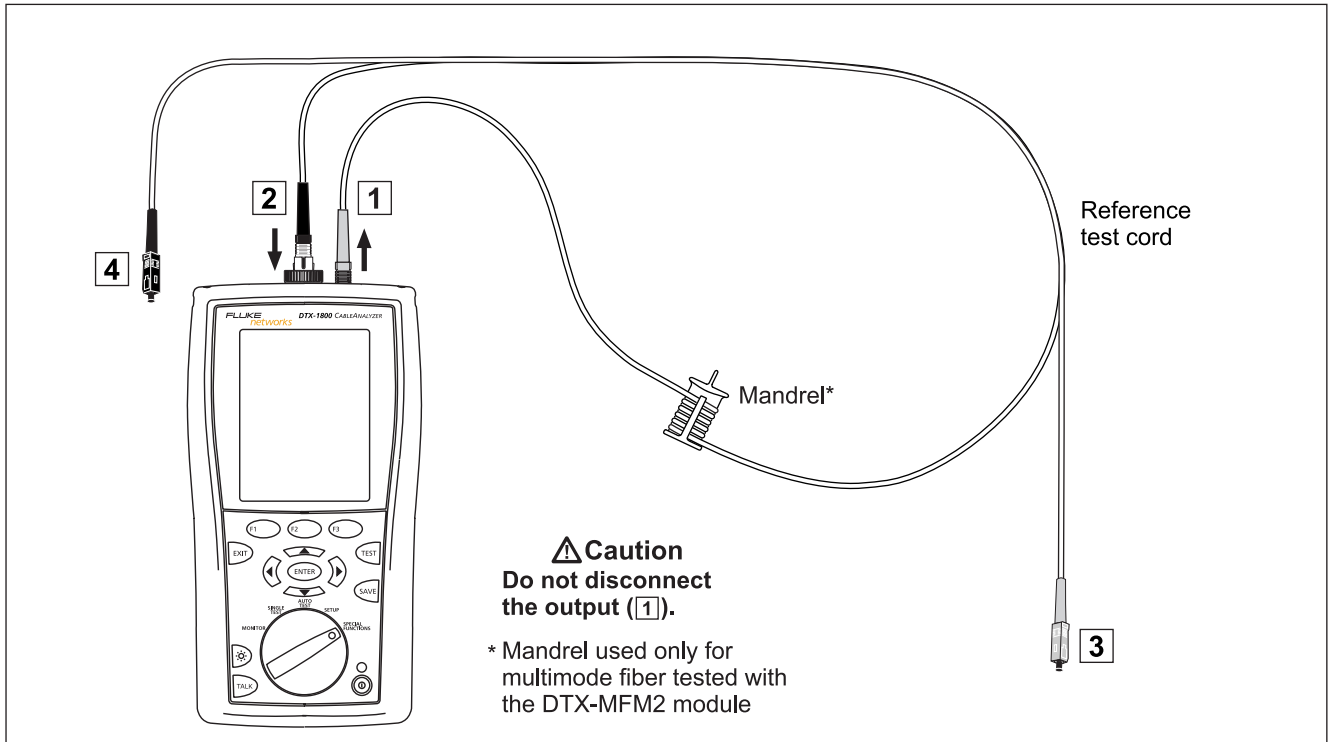

Figure 11. Loopback Mode Reference Connections (Method B)
- 4 The **Set Reference** screen shows connections for the test method you selected. Figure 11 shows connections for Method B. Clean the connectors on the tester and reference test cord, connect the tester's INPUT and OUTPUT ports; then press .